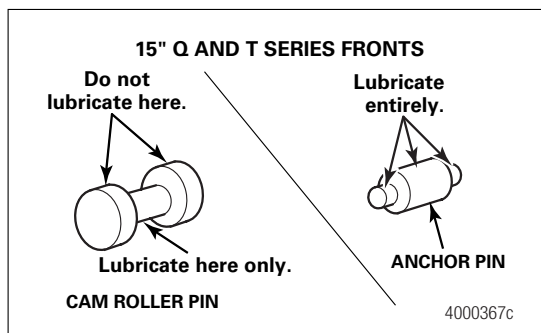

Figure 5.22
- Use Meritor specification O-617-A or O-617-B grease to lubricate the roller pin and anchor pin. Figure 5.22.
1. Lubricate the roller pin and anchor pin with Meritor specification O-617-A or O-617-B grease. Figure 5.22.